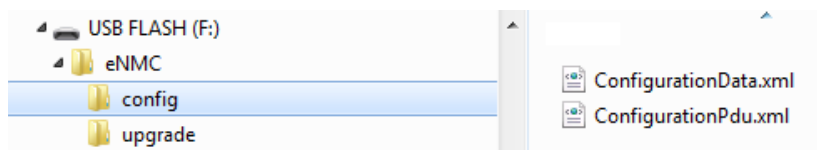

Figure 53. Verify Files at USB Root
1. Verify that the USB drive contains the ConfigurationPdu.xml file and ConfigurationData.xml files in eNMC/config directory of USB drive (see Figure 53).